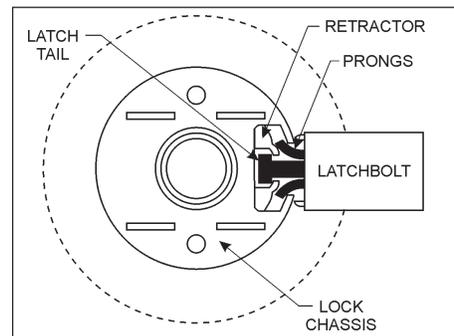

Figure 11
- Insert the chassis assembly into the hole. Be sure that the chassis assembly engages the latch prongs and that the latch tail engages the retractor as shown in Figure 11.